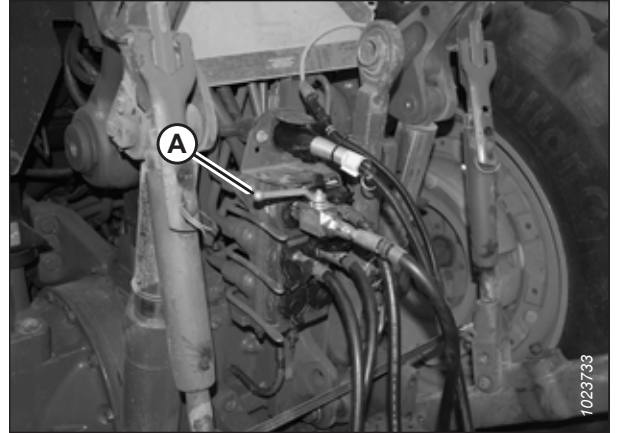
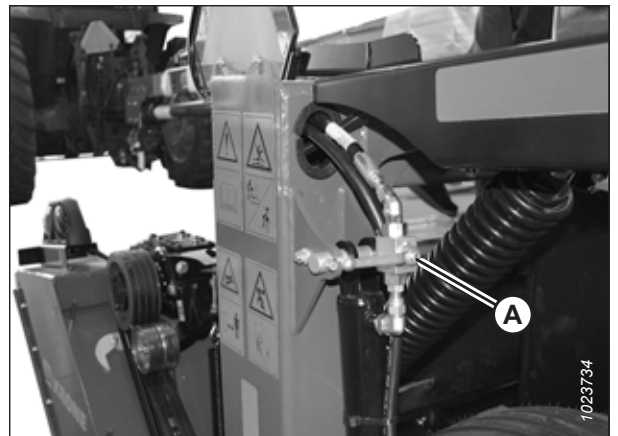

Figure 9.21: Steering Lock-Out Valve
Figure 9.22: Lift Cylinder Lock-Out Valve
12. Close the steering lock-out valve and the two lift cylinder lock-out valves by turning the handles to the closed position. For instructions, refer to Figure 9.21, page 167 and Figure 9.22, page 167.